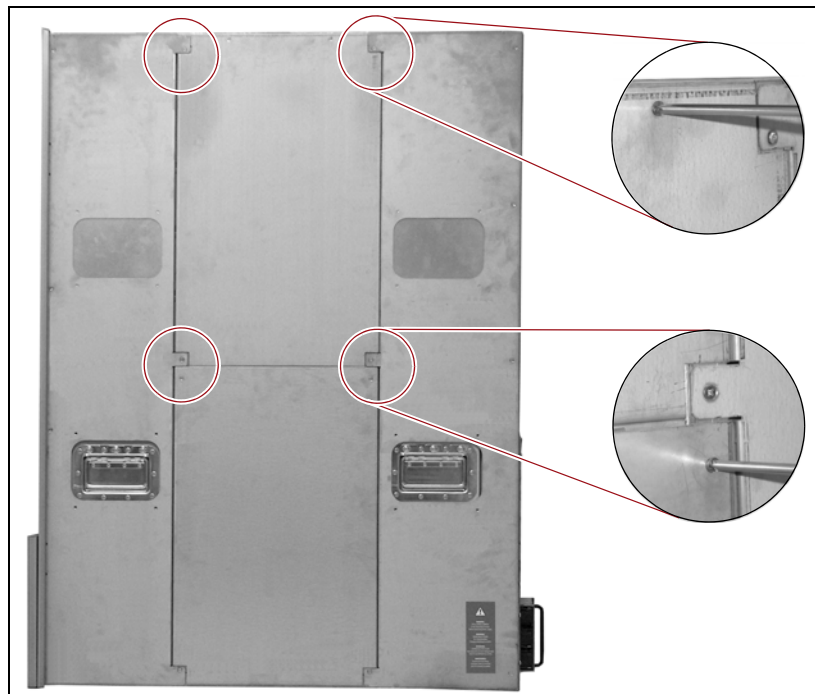

Figure 239 Removing the right side access panels.
2. Using a #2 Phillips screwdriver, remove the two screws securing the upper access panel to the right side of the library (see Figure 239 on page 392).
2. Align the screw holes on the top edge of the upper access panel (circled in Figure 239 on page 392) with the screw holes in the chassis. Use a #2 Phillips screwdriver to install the screws securing the cover to the chassis.
3. Position the lower access panel with the notched edge down, aligning the holes on the top edge of the panel (circled in Figure 239 on page 392) with the corresponding holes in the chassis. Use a #2 Phillips screwdriver to install the screws securing the cover to the chassis.